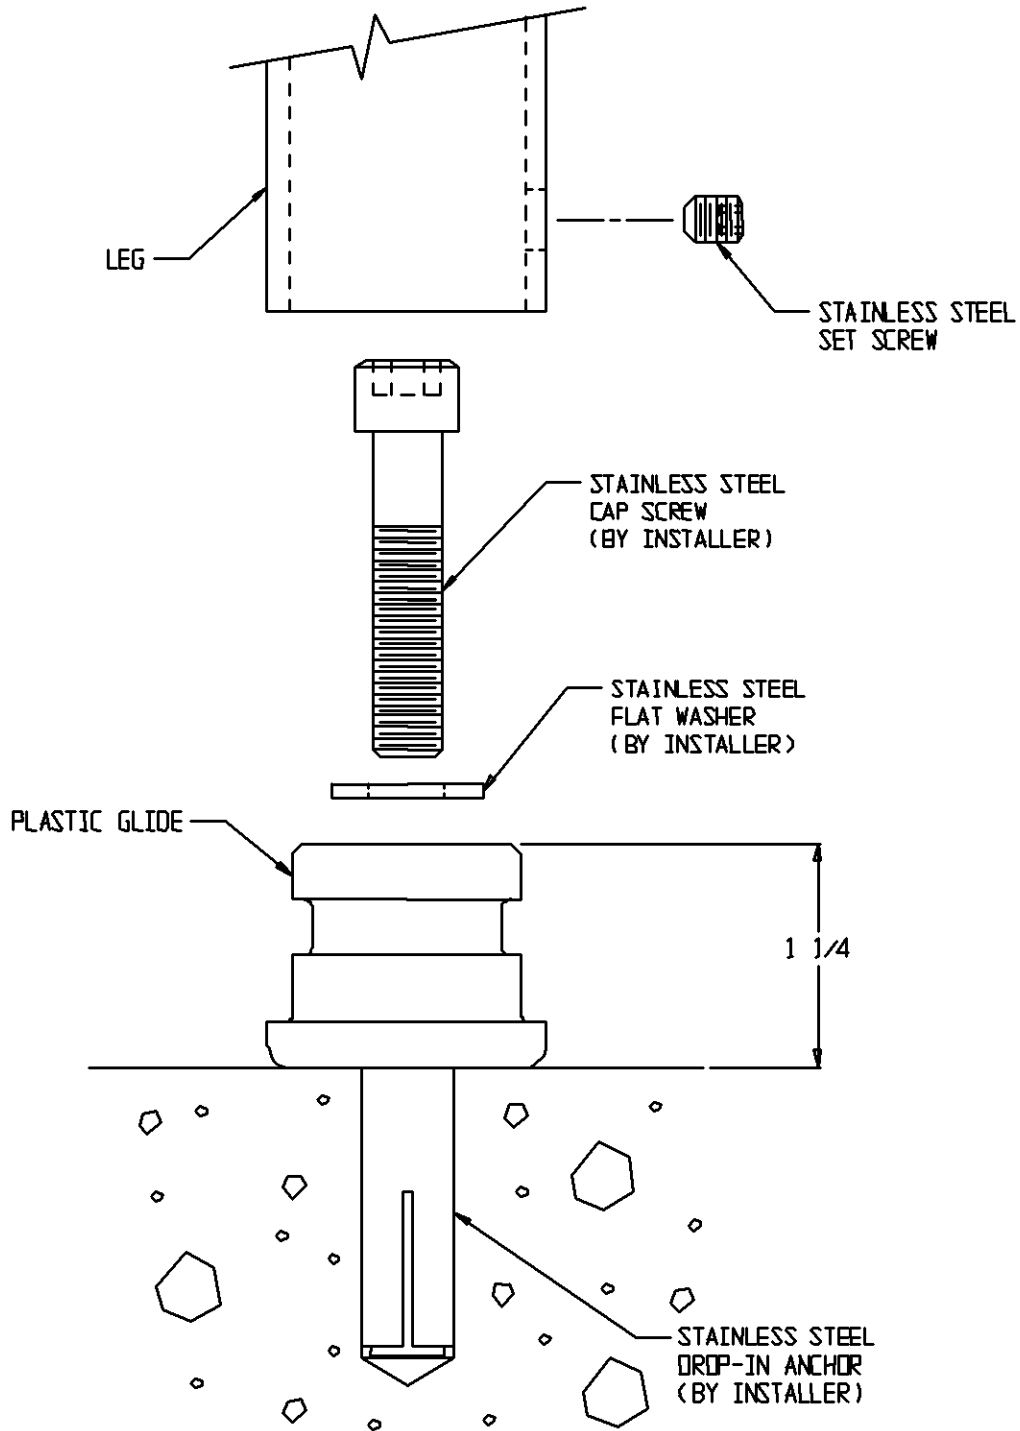

Figure 1
1. Select corrosion resistant anchors appropriate for the surface. Your hardware store or builders supply may be able to recommend the proper hardware, tools, and safety equipment. Follow the anchor manufacturer's instructions for drilling holes and installing anchors. Washington Square seat and side table glides will accommodate anchors 3/8" diameter or less. Litter receptacle glides will accommodate anchors 1/4" diameter or less. Select anchor length to accommodate glide height of 1 1/4" (see Figure 1).